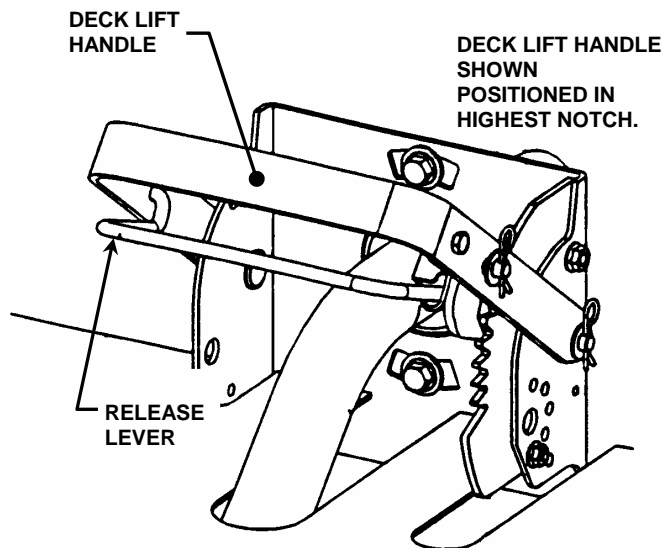

FIGURE 3.3
- Pull deck lift handle to highest cutting position. See Figure 3.3.